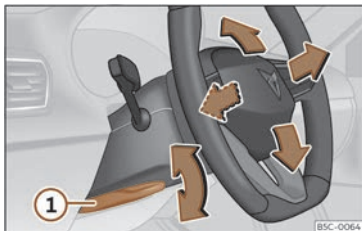

Fig. 86 Lever in the lower left side of the steering column.
- Pull lever >>> Fig. 86 ① down, move the steering wheel to the desired position and lift the lever back up until it locks.
- After adjusting the steering column, push lever >>> Fig. 86 ① firmly upwards so that the steering wheel does not accidentally change position while driving.